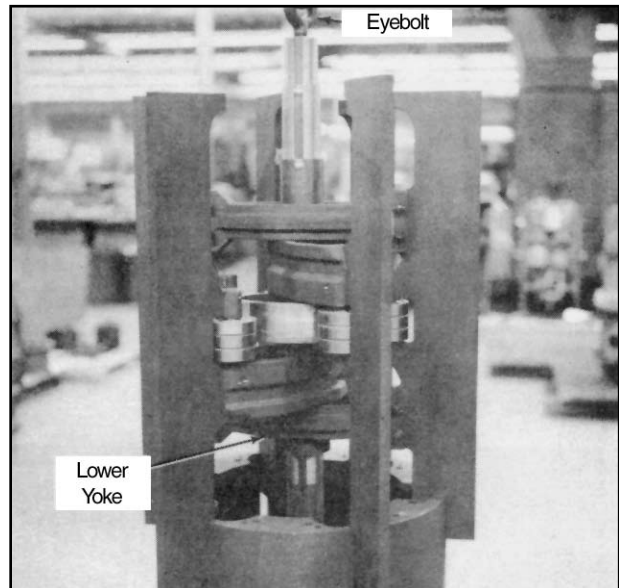

Figure 32
- Insert an eyebolt into the rotor shaft (nut with loop for the JB10) and raise shaft and blade assembly to approximate height as shown in Figure 32.
- Remove the lower yoke from blade assembly, Figure 32.